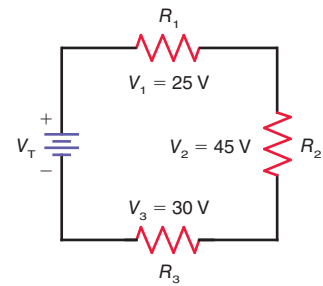

Figure 5-25
- 5.12 Using Kirchhoff's voltage law, determine the value of the applied voltage, V_T , in Fig. 5-25.
- 5.13 If $V_1 = 2$ V, $V_2 = 6$ V, and $V_3 = 7$ V in Fig. 5-25, how much is V_T ?